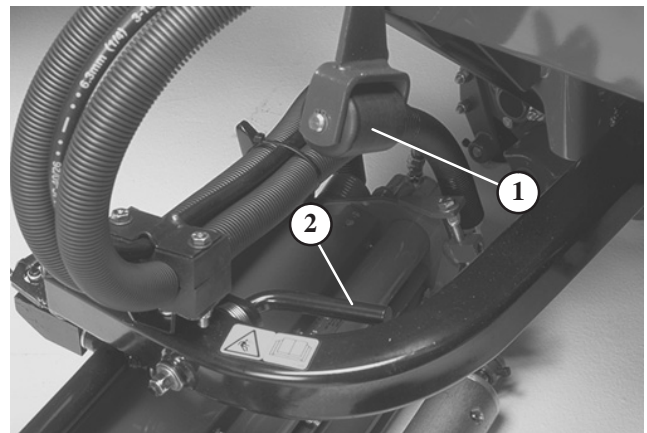

Figure 11
10. Check adjustment of lock-up rollers (Fig. 11). When properly adjusted, they will contact the lock-up levers on rear lift arms and support the cutting units when fully raised.